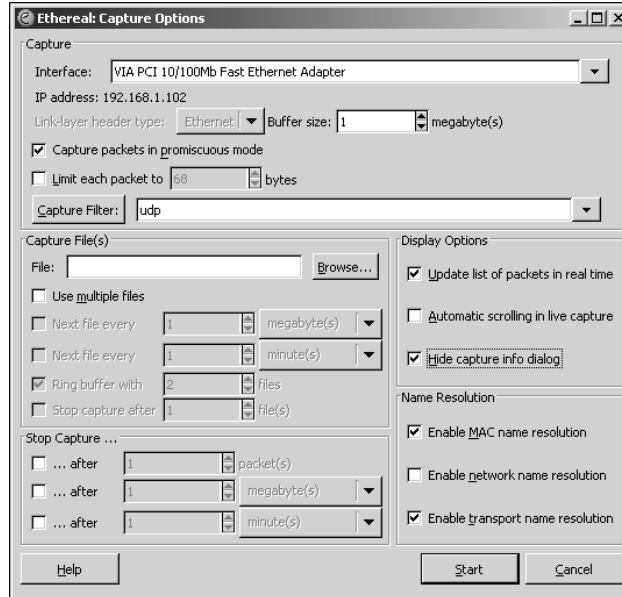

Figure 14-2: Capture Options dialog box for Ethereal
1. With Ethereal running, click the **Options** selection under the **Capture** menu to bring up the Capture Options dialog box (see Figure 14-2).